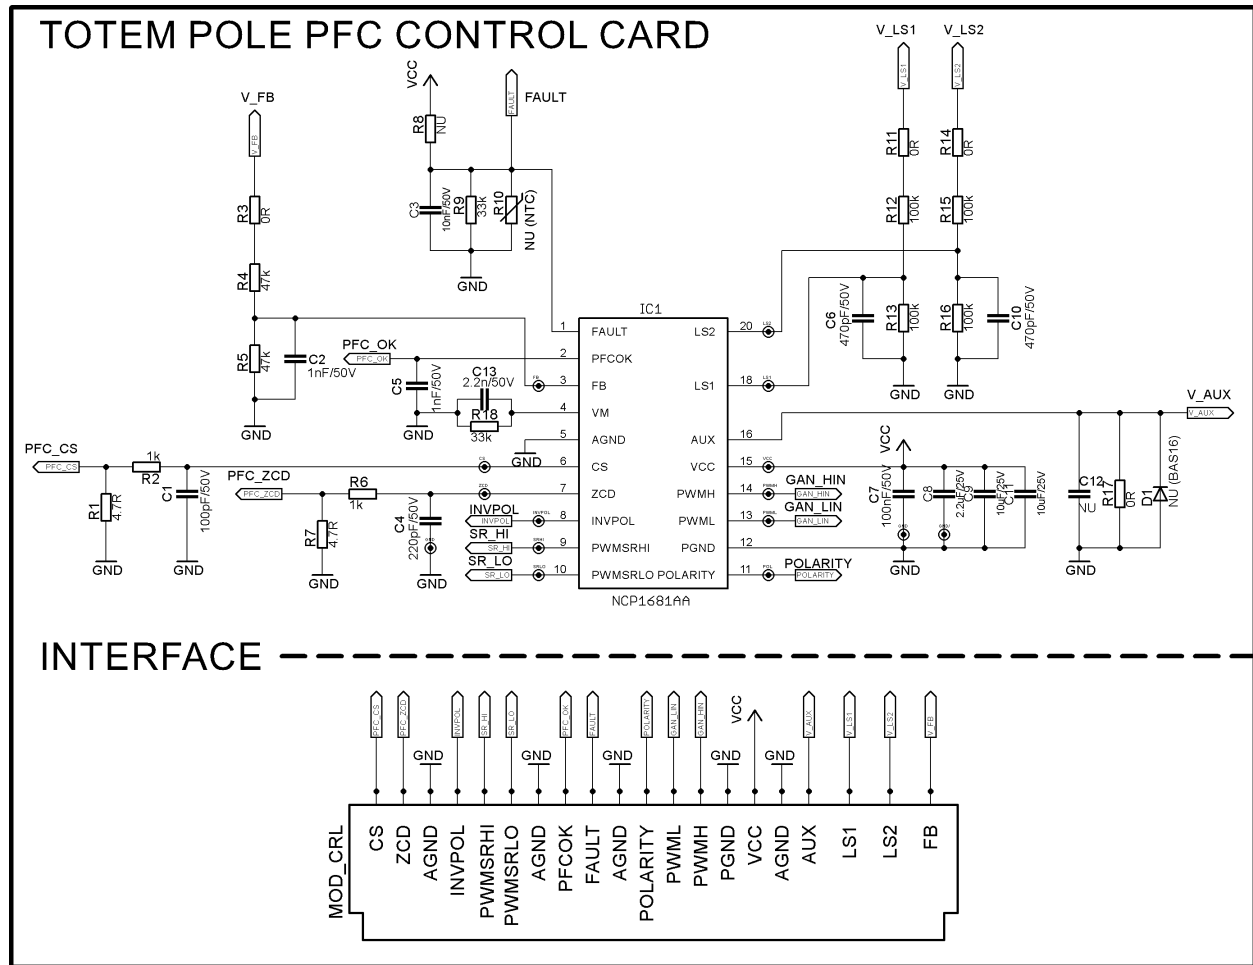
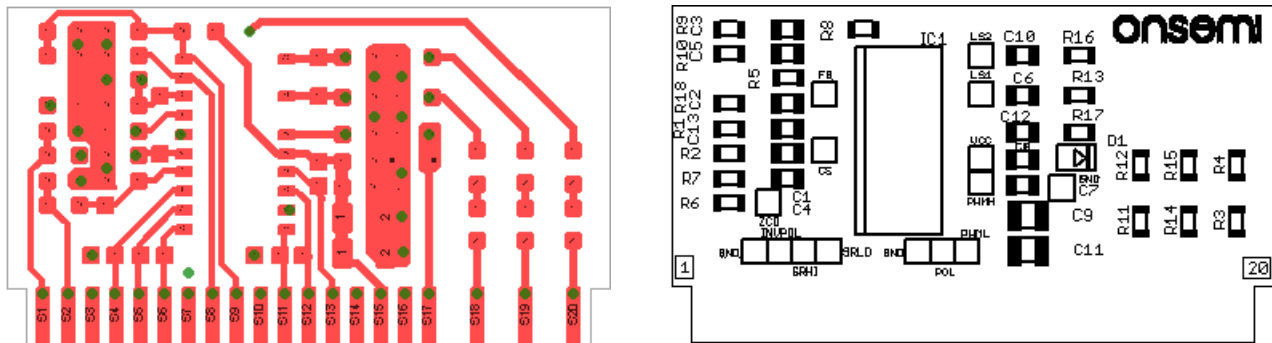

Figure 22. PFC CONTROL CARD Schematic
Figure 23. Top Layer PCB Layout and Assembly Plan of PFC CONTROL CARD
- PFC CONTROL CARD – MOD_CRL (Figure 22, Figure 23, Figure 24, Figure 25)
The PFC CONTROL CARD is portrayed in first few figures: schematic diagram in Figure 22, PCB layout with assembly plan in Figure 23, Figure 24 and photographs in Figure 25. The PFC CONTROL CARD is two-layer 1.5 mm width core PCB with 70 μ m copper plating. The PCB is designed to be plugged into edge connector. Dimensions of the PCB are 31.8x17.8 mm.